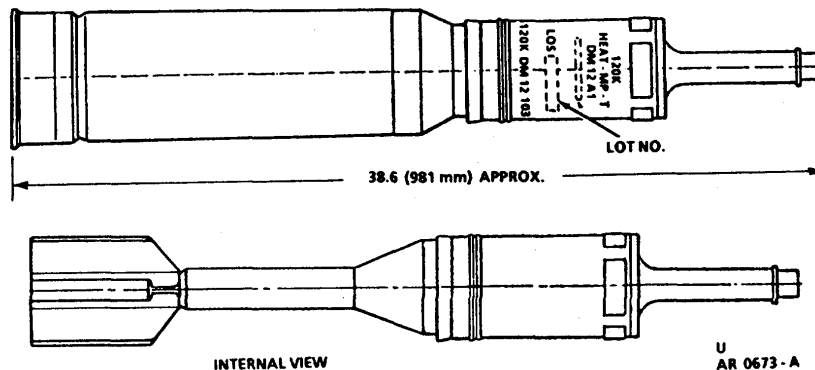

Figure 8. Cartridge, 120K: HEAT-MP-T, DM12A1.
j. Description for Cartridge, 120K: HEATMP-T, DM12A1 (fig. 8).
(1) The 120K HEAT-MP-T, DM12A1 is a high-explosive round having both antiarmor and antipersonnel capabilities. The round consists of a steel body loaded with explosive surrounding a copper-shaped charge liner and wave shaper. The projectile embodies a steel spike and nose cap which initiates a base detonating fuze located at the rear of the projectile body. The projectile body has a boom and fin assembly for flight stabilization and the fin contains a tracer for projectile to target visual tracking.
(2) The propellant system utilizes a DM10 steel stub base case with a rubber obturator at the stub case mouth and a combustible wall which encapsulates stick propellant.